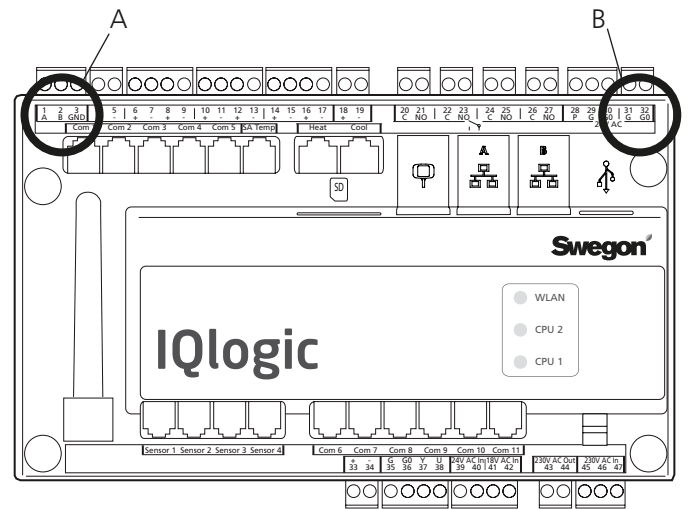

Fig. 4
Connect the 24 V AC supply voltage to terminals Vin+ (24) and GND (23). Supply voltage can be obtained from the control unit of the air handling unit, see below and B in Fig. 4.
Connect the network from the GOLDen GATE communication unit to the control unit of the GOLD (A in Fig. 4). Use a 3-wire cable.